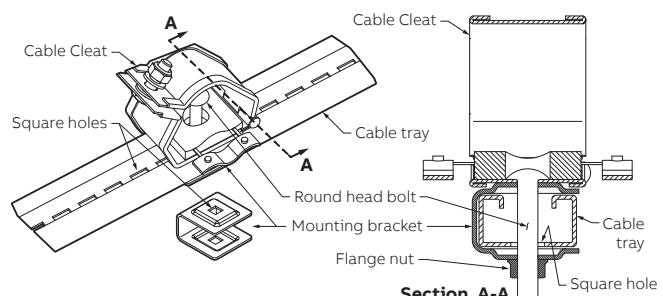

Figure 4
4. Assemble the cable cleat onto the mounting bracket, and install the round headed bolt through the square holes in the cleat, bracket, and cable tray rung, so that the square neck of the bolt fits into the square holes in the cleat and bracket (Figure 4).